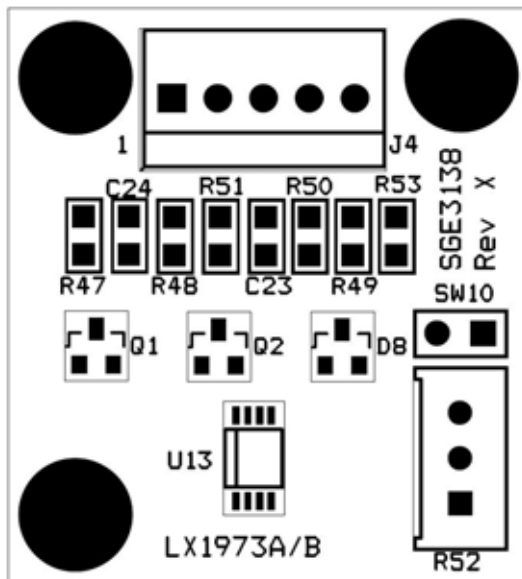

Figure 2 - LX1973B Evaluation Board PCB Layout
**PCB Layout:** The LX1973B Eval board layout is shown in Figure 2.